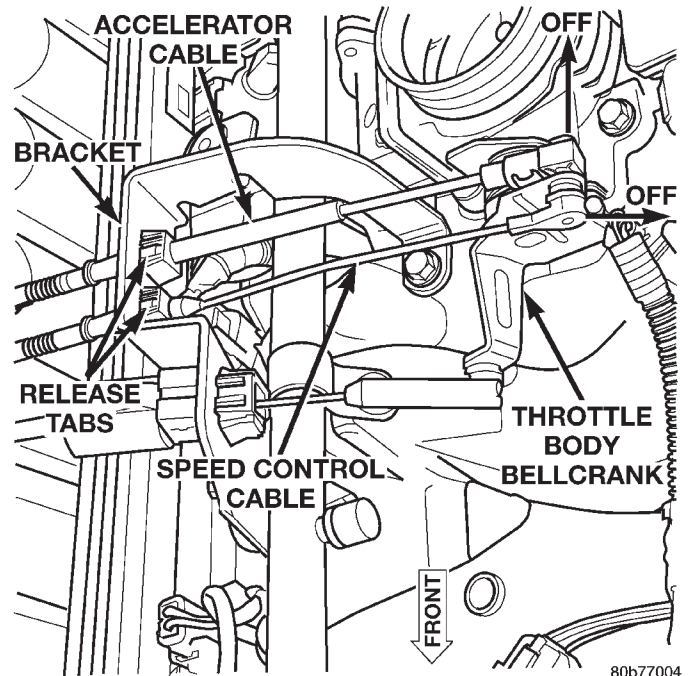

Fig. 45 Throttle (Accelerator) Cable at Throttle Body—4.0L Engine
(4) Remove cable housing from dash panel and pull into engine compartment.
(5) Remove (unsnap) cable from routing clips on engine valve cover.
(6) Remove cable connector at throttle body bellcrank ball by unsnapping rearward (Fig. 45).
(7) Remove throttle cable from bracket by compressing release tabs (Fig. 45) and pushing cable through hole in bracket.
(8) Remove throttle cable from vehicle.